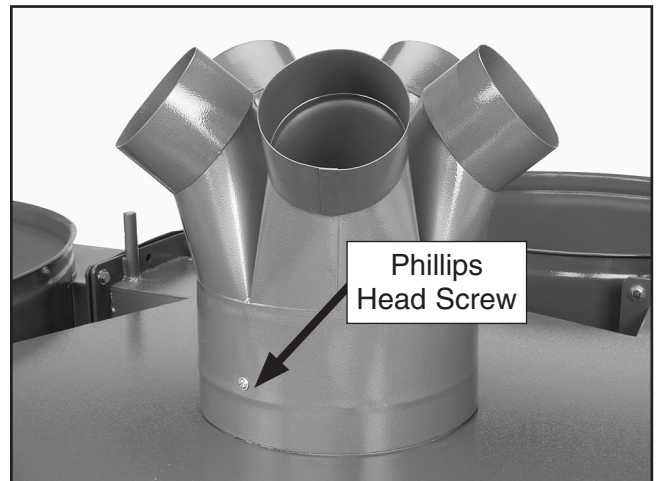

Figure 17. Inlet mounted on impeller housing.
- Attach the inlet to the top of the impeller housing with the #10-24 x $\frac{3}{8}$ " Phillips head screw, as shown in **Figure 17**.